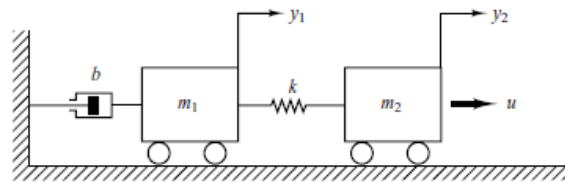

Figure 5
- 4B.** Obtain the state space model of the system shown in figure 5 using the modelling technique. **(03)**